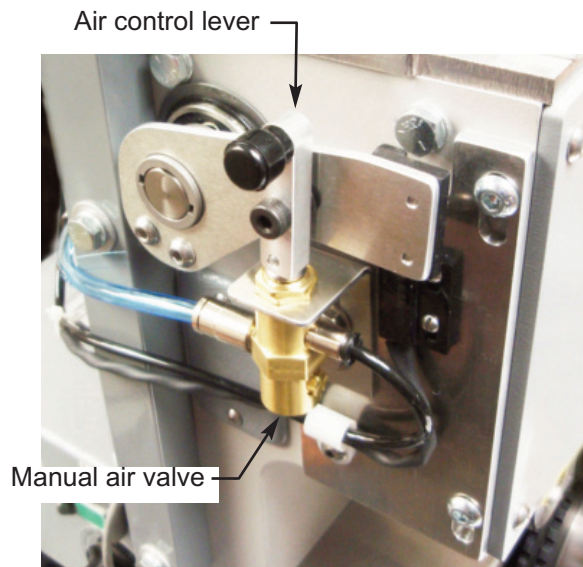

Figure 3.3
1. Turn on the air flow valve by swiveling the air control lever (Figure 3.3) to send air to the strip cleaner.